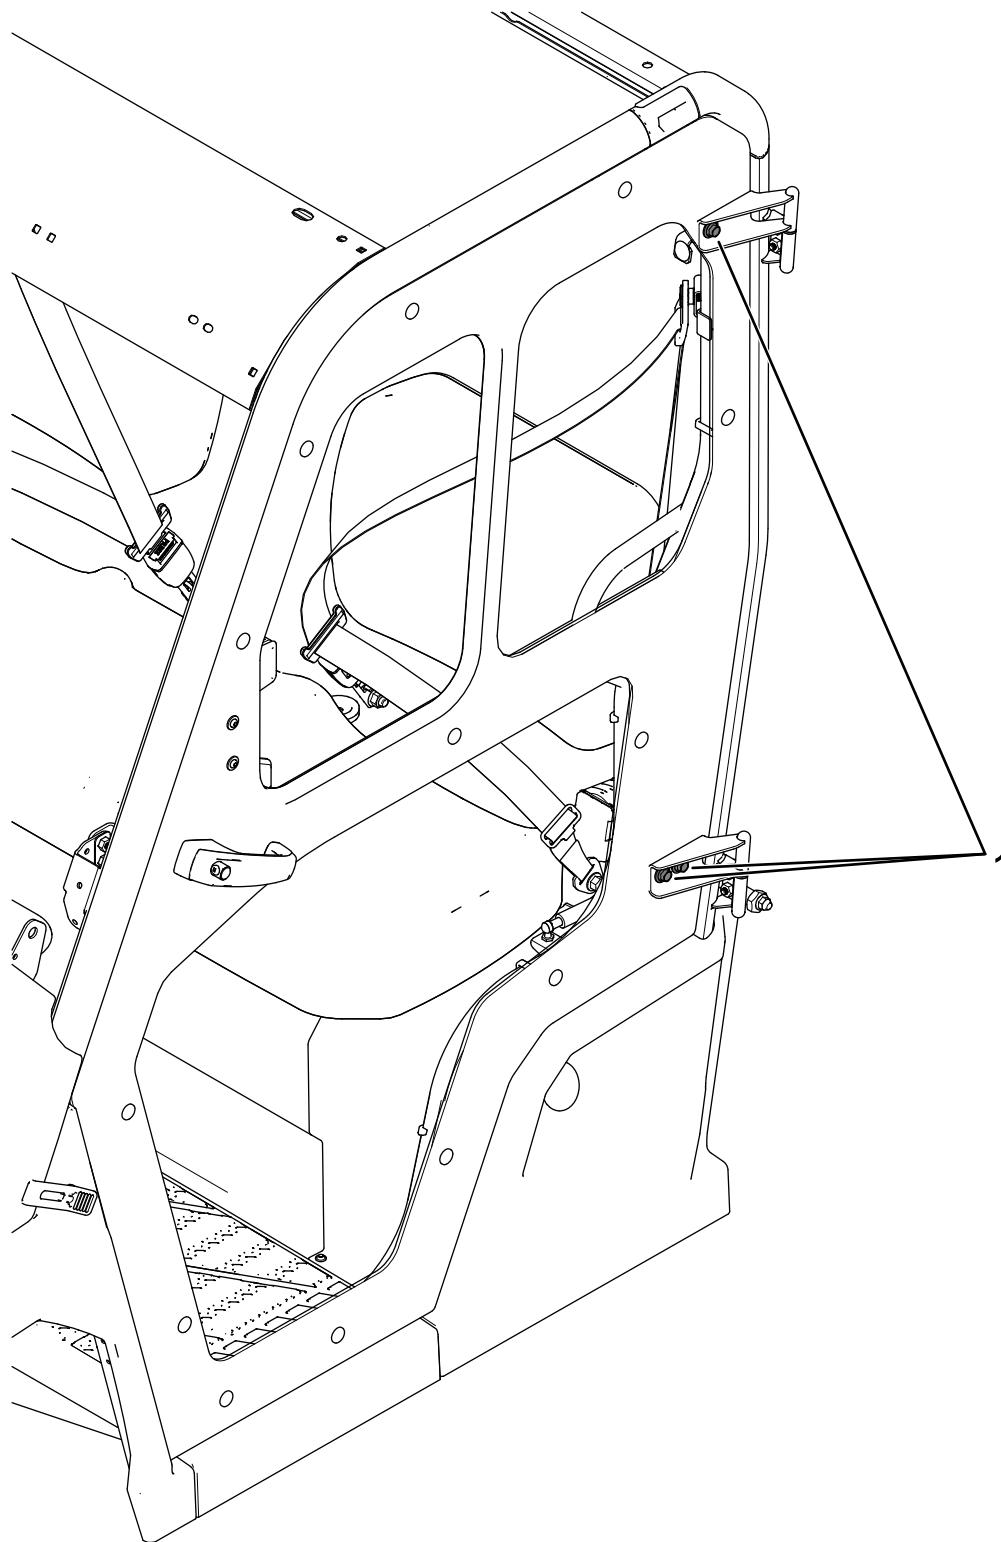

Figure 7
4. Loosen the 3 door hinge hex-head bolts (Figure 7).
Then, torque the 3 door hinge hex-head bolts (M8 x 25 mm) shown in Figure 7 to 26 N·m (230 in-lb).